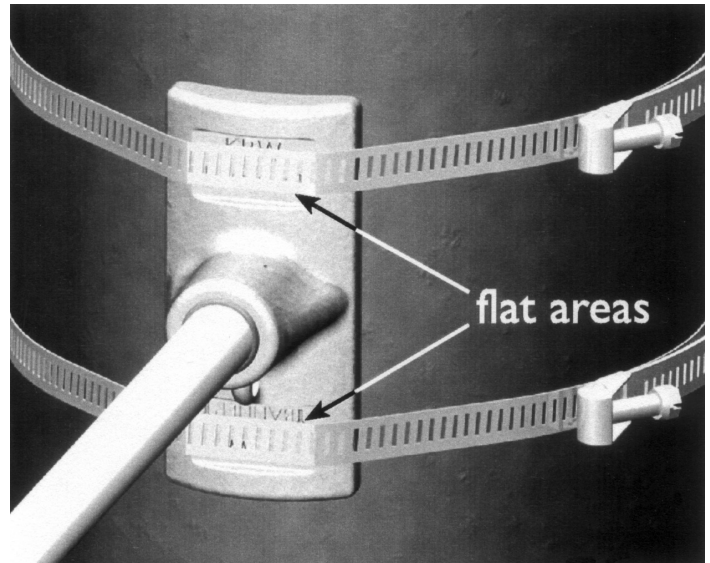

Figure 1
- 2 Install top arm first. Hold the casting up to the pole so that the word "BANNER" with arrows points **DOWN**. Wrap banding around pole at both the top part of the casting and the bottom part of the casting. Position the banding so that it goes over the flat areas on the casting. **See Figure 1.**